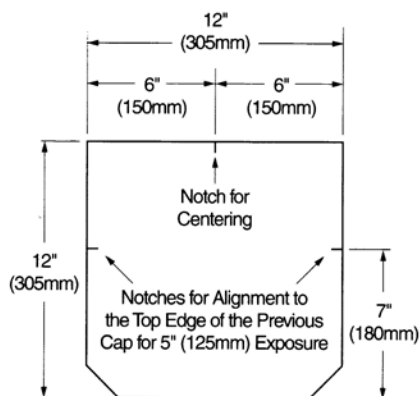

Figure 15-17 : Each Accessory shingle has a centering notch and two side-alignment notches to help ensure proper placement.
**NOTE:** Each Accessory cap has a laying/alignment notch at the top edge to center the piece on the ridge line, and two notches on each side to indicate the 5" exposure and correct shadow-line placement (Figure 15-17). The side notches of the cap being applied should be aligned with the top edge of the previously applied cap.